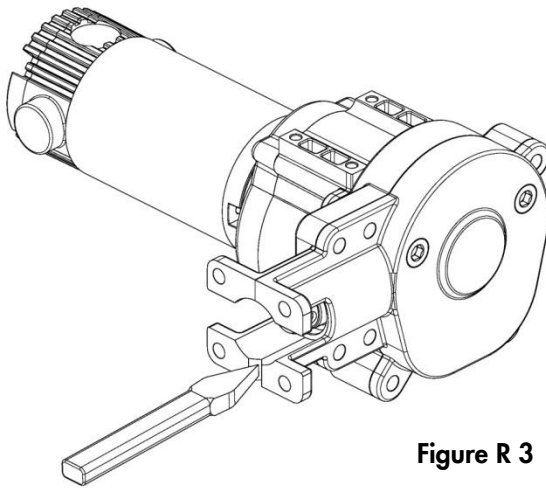

Figure R 3
5. Remove the seven 1/4" hex bolts from the eccentric drive assembly. Remove the housing front from the drive assembly. You can use a cape chisel and a hammer to hit from the pump flange side into the groove. See **Figure R 3**. Please note that oil will drain out.